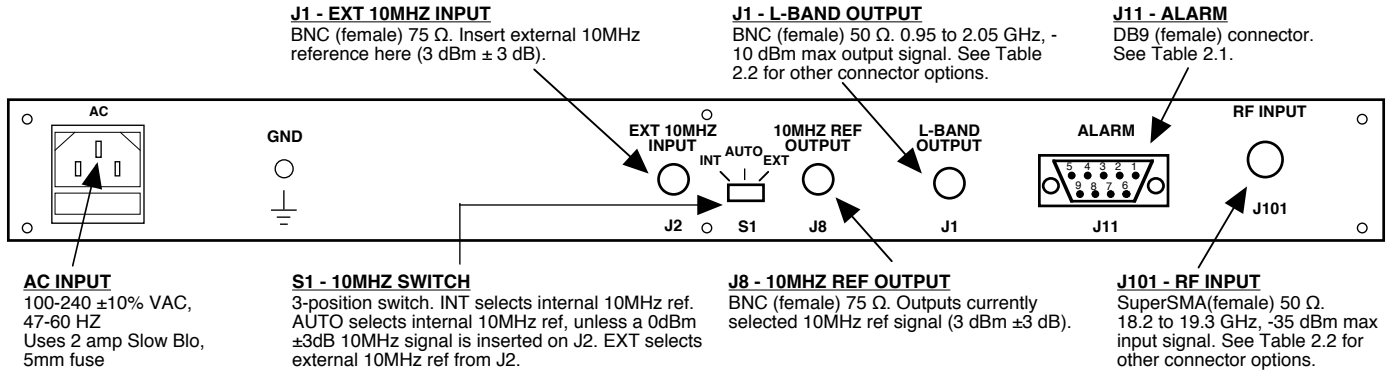

FIGURE 2.1 2116-182193 Rear Panel I/O's
2.2 Rear Panel Input/Output Signals - Figure 2.1 shows the input and output connectors on the rear panel.
- 1.) Connect a -55 dBm to -35 dBm signal to RF INPUT, J101 (Figure 2.1).
- 5.) Select either INT (for internal 10MHz ref), AUTO (for internal 10MHz ref UNLESS a external 10MHz, 0 dBm signal is connected to J2), or EXT (for external 10MHz, 0 dBm ref that is inserted at J2) on rear panel switch S1 (Figure 2.1).
- 7.) Check that a 10MHz, 0 dBm \pm 3 dB signal is present at the 10MHZ REF OUTPUT (J8) (Figure 2.1).